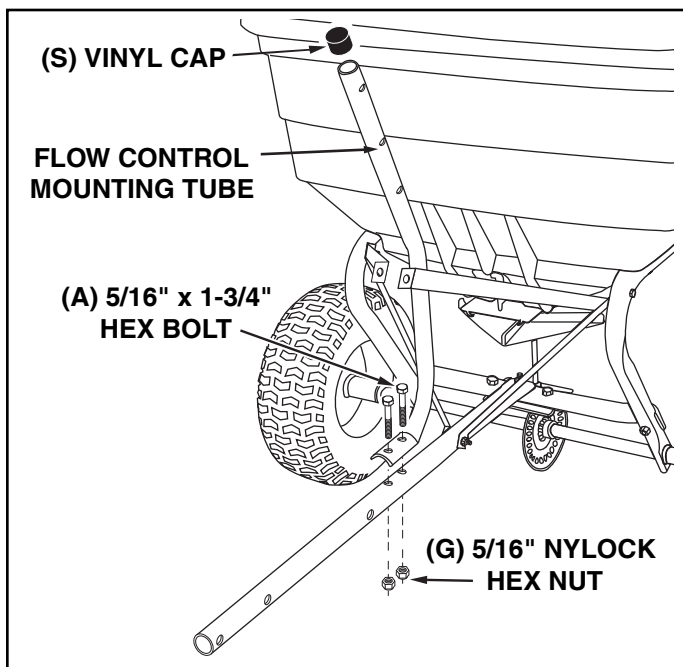

FIGURE 5
12. Assemble the flow control mounting tube to the hitch tube using two 5/16" x 1-3/4" hex bolts (A) and 5/16" nylock hex nuts (G). **DO NOT TIGHTEN YET**. See figure 5.
13. Assemble the vinyl cap (S) onto the flow control mounting tube. See figure 5.